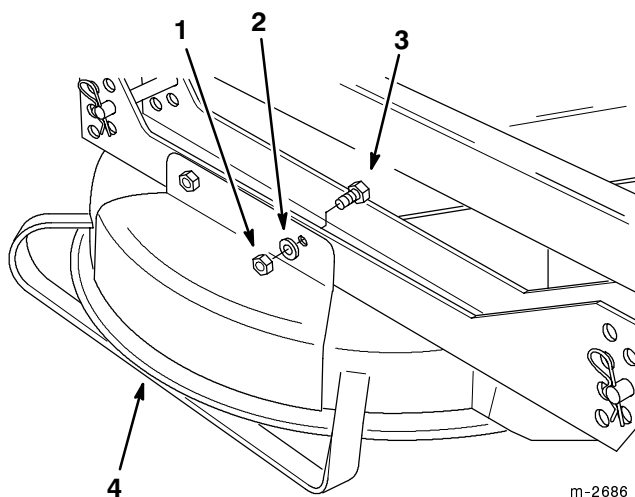

Figure 30
3. Remove the two locknuts, flat washers and hex head bolts holding the discharge chute cover to the deck and remove the cover from the deck (Fig. 30).